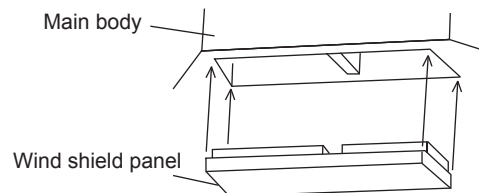
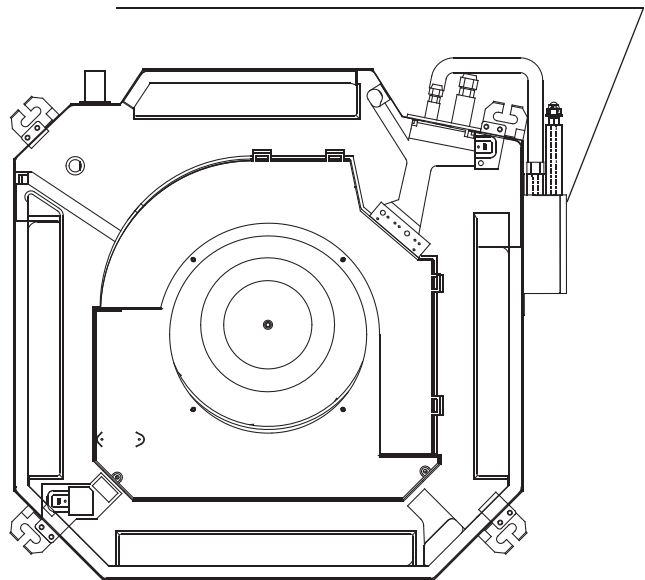
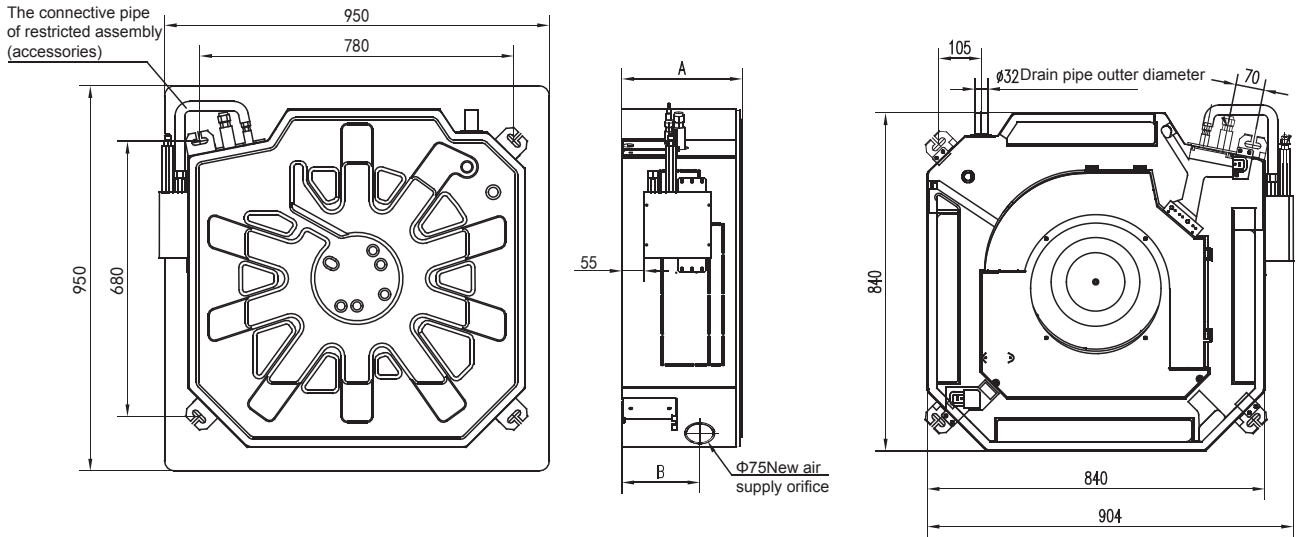

Fig. 4-4
Fig. 4-6
Fig. 4-7
(refer to Fig. 4-4, Fig. 4-6 and Fig. 4-7)
- Before install the indoor unit, please remove the buffer between in fan and flared mouth firstly. Otherwise, running operation would damage the fan motor (See Fig. 4-6).